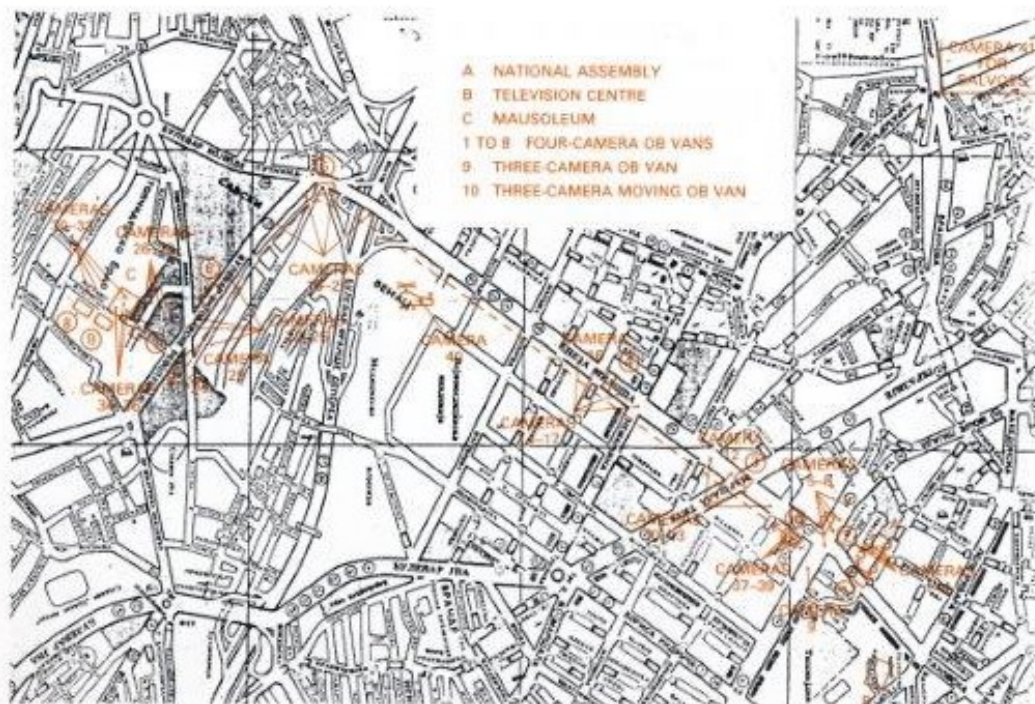

Fig. 3. Deployment of the OB vans and cameras
Another three OB vans (Nos.3, 4 and 5), each with four cameras, were positioned along one of the main streets on the procession route. Van No.3 took shots of the flags as the procession entered the street, van No.5 covered the procession turning into another street and van No.4 was installed in between the two (figure 3). Apart from one camera from van No.3 (12) which was positioned on the roof of a high building, and one from van No.4 which was on a hydraulic platform borrowed from the fire brigade, all the cameras from these three vans were mounted more or less at street level.
Figure 3 shows the deployment of the OB vans and cameras. Ten OB vans were used (four of which, Nos.3, 5, 8 and 10 were Marconi vans) with 38 cameras plus three independent cameras, making a total of 41.